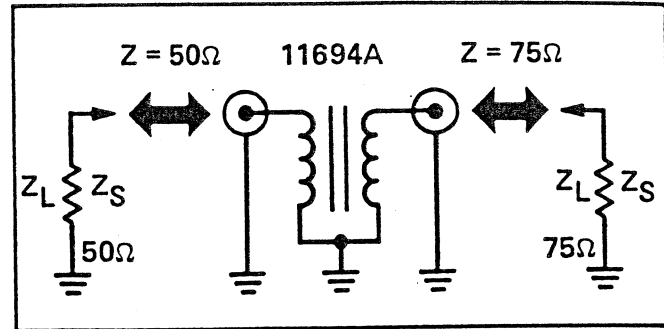

Figure 1. Model 11694A Schematic
7. The matching transformer adapts a 50-Ohm coaxial line to a 75-Ohm line. Impedance change is accomplished by transformer coupling. The primary winding of the transformer is 50 Ohms impedance and the secondary winding is 75 Ohms. (See Figure 1.)